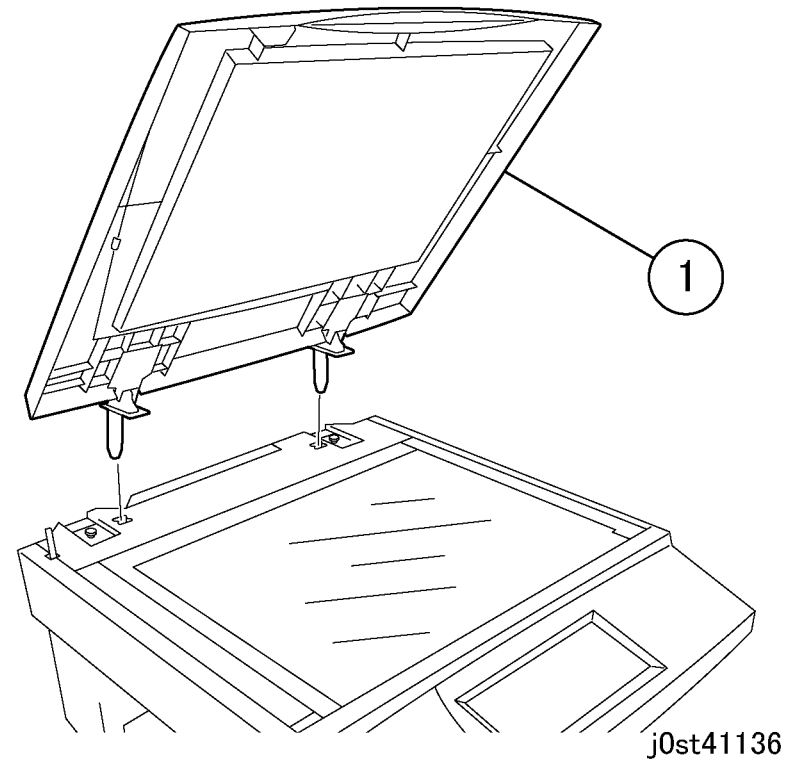

Figure 1 Removing the Platen Cover (j0st41136)
1. For the Platen models, remove the Platen Cover. (Figure 1)